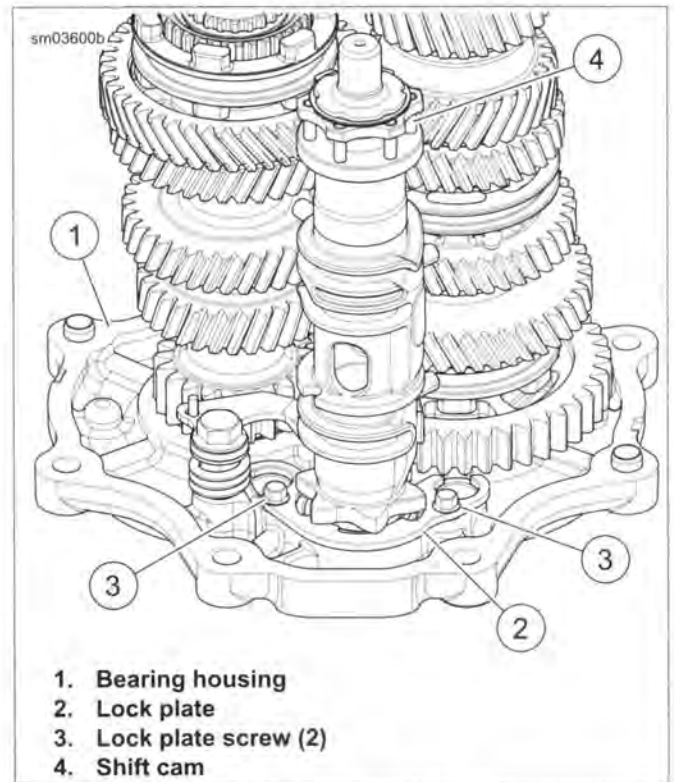

Figure 6-14. Shift Drum
- b. Remove shift fork shafts using easy-out screw extractor (14) (non-flute design) or vise grips.
3. See Figure 6-14. Remove lock plate screws (3) from lock plate (2). Discard screws.